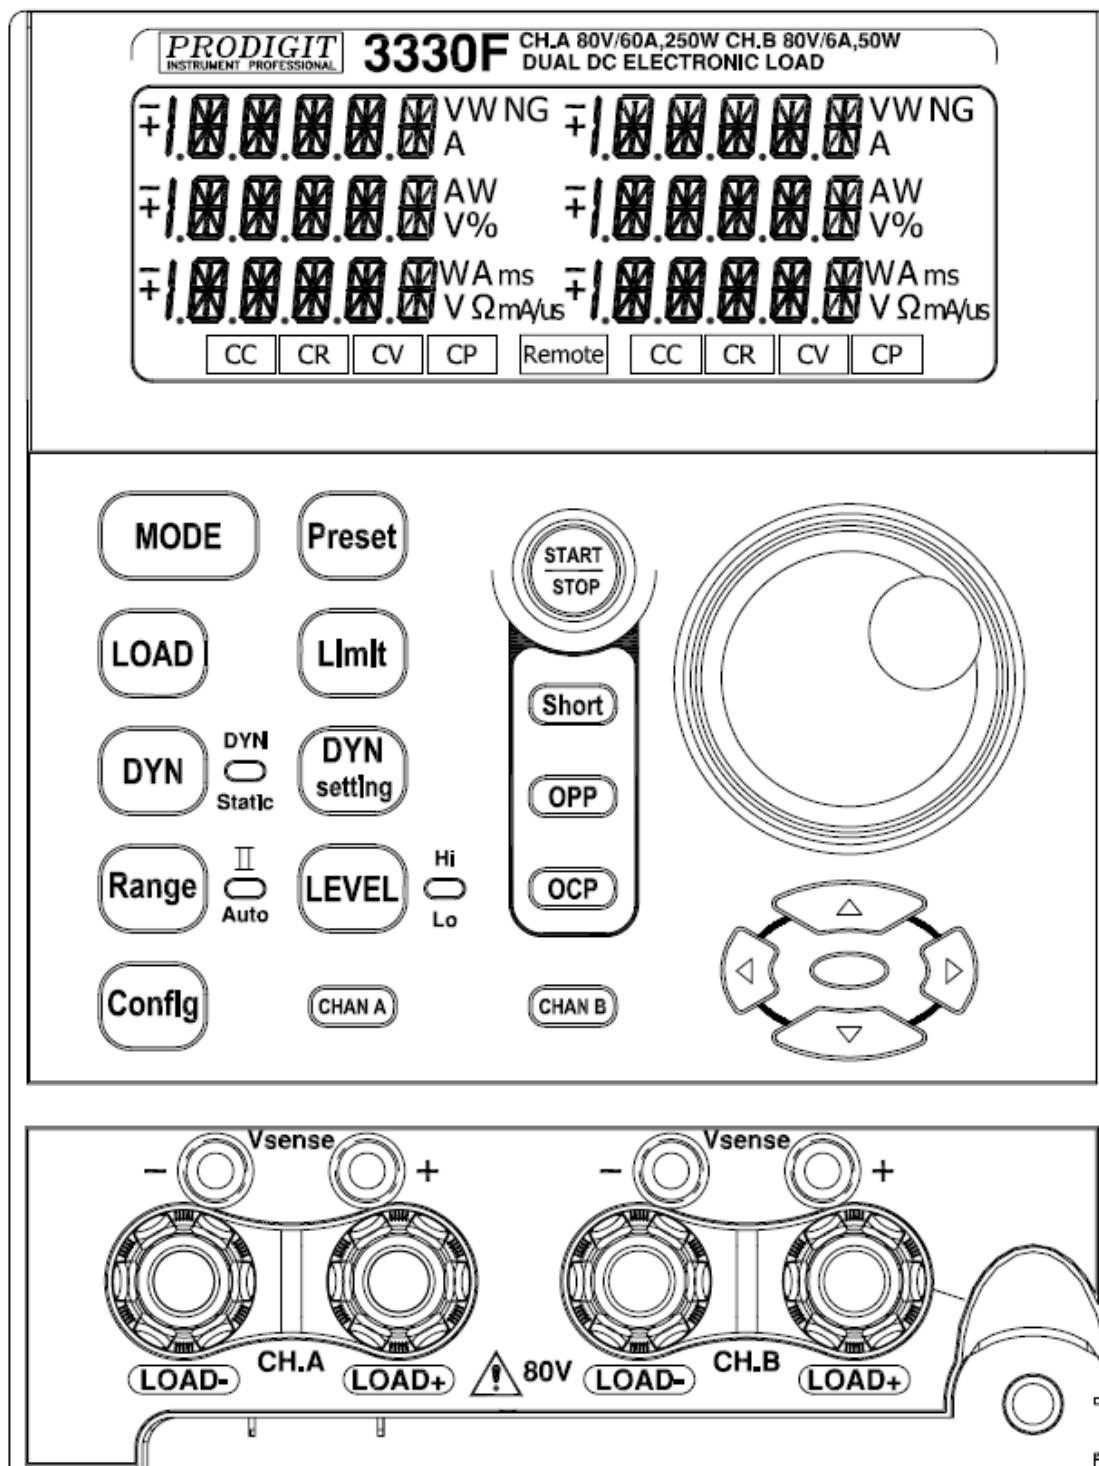

Fig 2-1 Binding post and withdraw handle on the front panel of 3330F series Plug-in load module
- 2.1.1.4 Fasten the screw on the lower and right hand side corner of the 3330F Series front panel with screw driver, the screw location is shown on Fig 2-1.